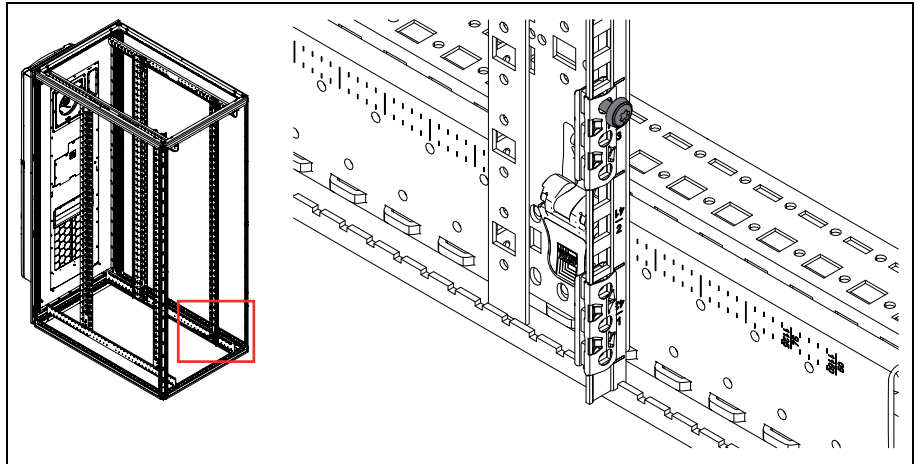
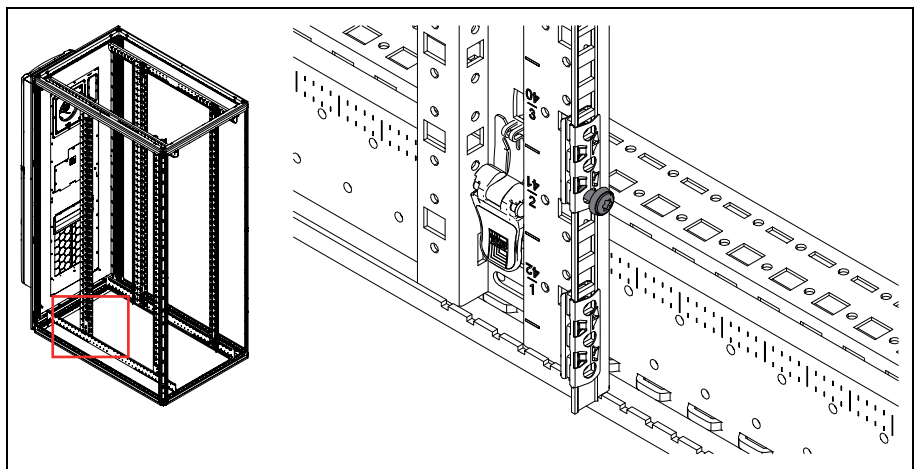

Fig. 5: Insert front screws
Fig. 6: Insert rear screws
Loosely screw four pan-head screws M5x16 (pan-head screw I14583/5X16/TX25), each with one plastic washer (washer NZ/5.5), into the positions shown. The screws must be screwed into the front and rear 482.6 mm (19") mounting angles on the left and right side as shown in fig. 5 and fig. 6.
- Then locate the air duct at the front of the rack by aligning the keyholes with the previously inserted screws (fig. 5 and fig. 6).